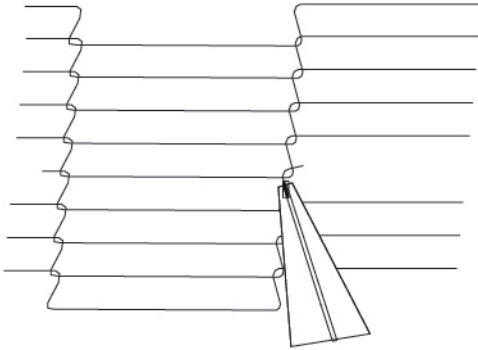

Figure 47.
- Using long nose pliers, unhook master links at left end of conveyor as shown in Figure 47.